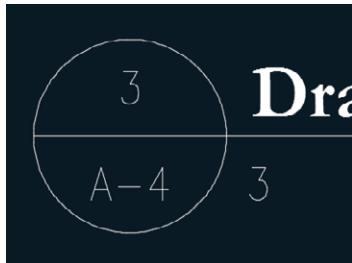

FIGURE 10.12 Edited text
- Double-click the text in the lower semicircle of the callout symbol to invoke the **TEXTEDIT** command. The number 3 is highlighted. Type **A-4**, click outside the editing window on the drawing canvas, and press Esc to stop editing. The bubble now references the hypothetical drawing 3 on sheet A-4 (see Figure 10.12).